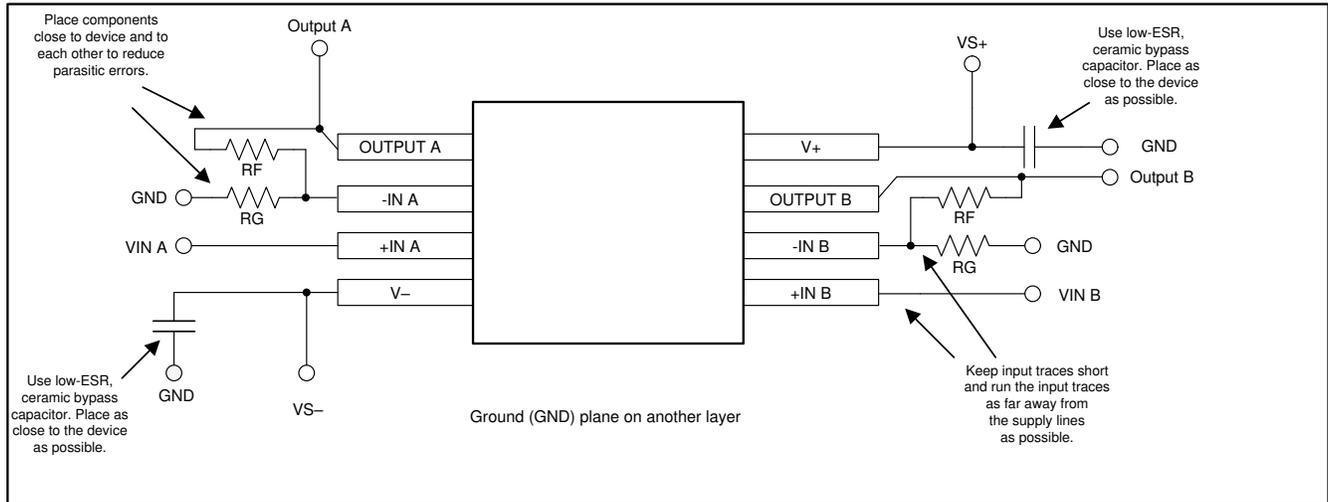

图 10-1. Operational Amplifier Board Layout for Noninverting Configuration
- Place the external components as close to the device as possible. As shown in 图 10-1, keeping R_F and R_G close to the inverting input minimizes parasitic capacitance.